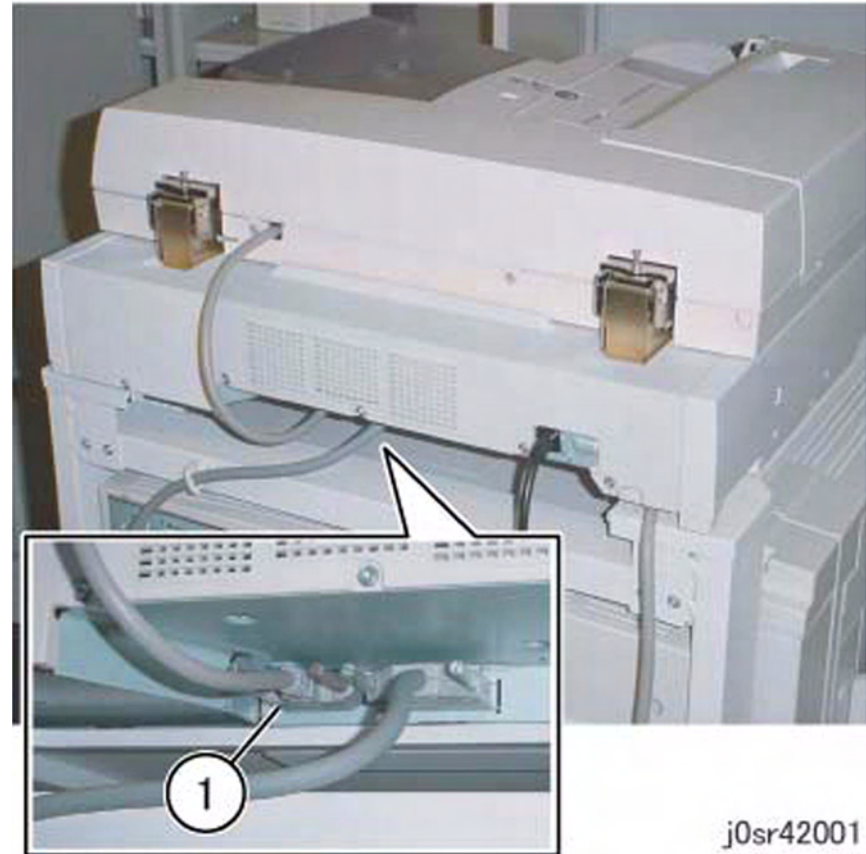

Figure 1 Disconnecting the connector
1. Disconnect the connector (Figure 1)